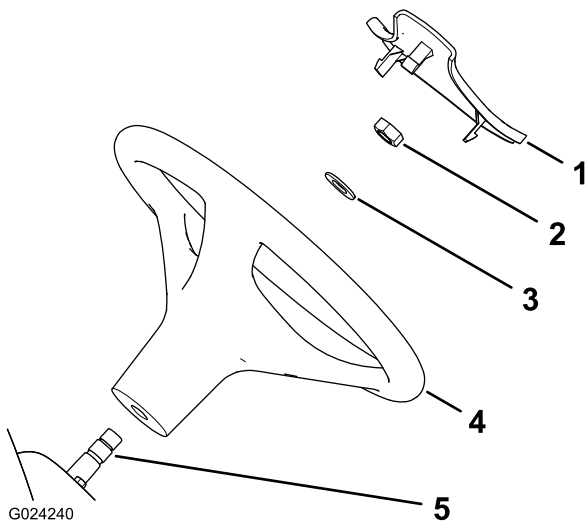

Figure 3
- Install the cover on the steering wheel (Figure 3).
- If the cover is installed, remove the it from the hub of the steering wheel (Figure 3).
- Remove the nut from the steering shaft (Figure 3).
- Slide the steering wheel and washer onto the steering shaft (Figure 3).